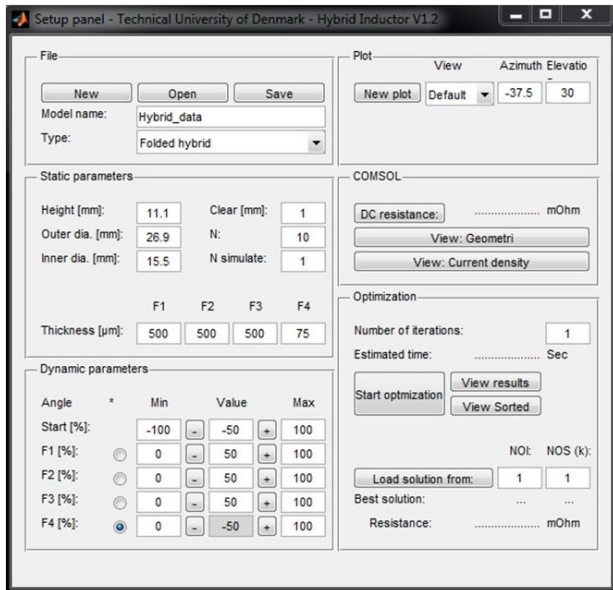

Figure 2
- Creating a MATLAB GUI - See Figure 2